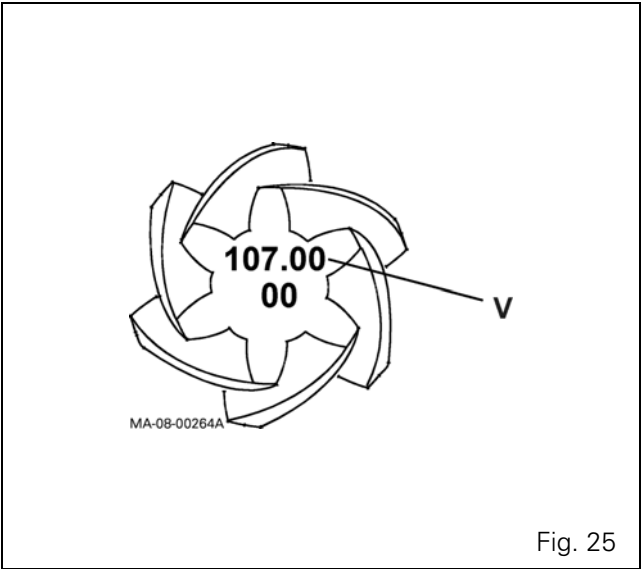

Fig. 25
30. To determine the necessary thickness S between the pinion and the bearing, subtract the value V engraved on the pinion head (V = specified taper distance) from the measured value B (Fig. 25):